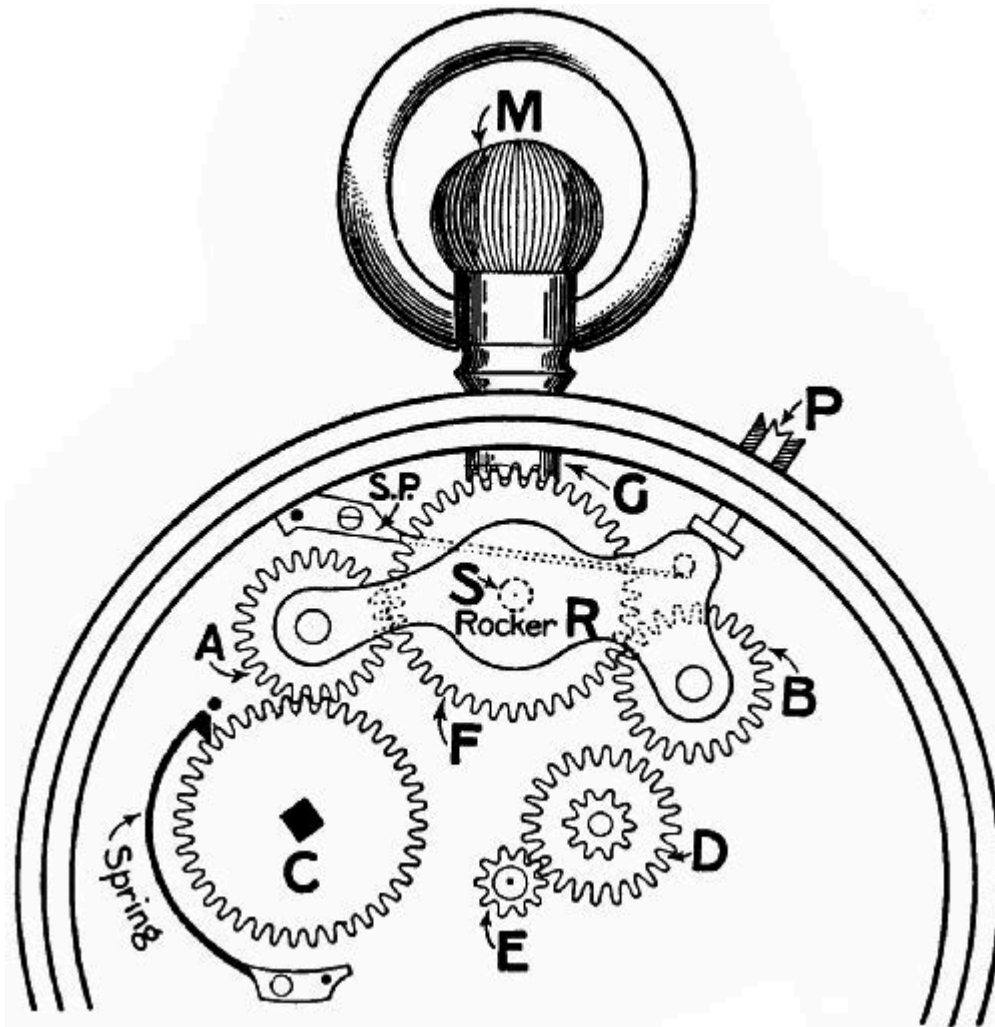

FIG. 209.—The winding mechanism of a keyless watch.
There are two forms of "going-barrel" keyless mechanism—(1) The rocking bar; (2) the shifting sleeve. The *rocking bar* device is shown in Figs. 209, 210. The milled head *M* turns a cog, *G*, which is always in gear with a cog, *F*. This cog gears with two others, *A* and *B*, mounted at each end of the rocker *R*, which moves on pivot *s*. A spring, *s p*, attached to the watch plate presses against a small stud on the rocking bar, and keeps *A* normally in gear with *C*, mounted on the arbor of the mainspring.
To wind the watch, *M* is turned so as to give *F* an anti-clockwise motion. The teeth of *F* now press *A* downwards and keep it in gear with *C* while the winding is done. A spring click (marked solid black) prevents the spring uncoiling (Fig. 209). If *F* is turned in a clockwise direction it lifts *A* and prevents it biting the teeth of *C*, and no strain is thrown on *C*.
The *shifting sleeve* mechanism has a bevel pinion in the place of G (Fig. 209) gearing with the mainspring cog. The shaft of the knob M is round where it passes through the bevel and can turn freely inside it, but is square below. On the square part is mounted a little sliding clutch with teeth on the top corresponding with the other teeth on the under side of the bevel-wheel, and teeth similar to those of G (Fig. 209) at the end. The clutch has a groove cut in the circumference, and in this lies the end of a spring lever which can be depressed by the push-piece. The mechanism much resembles on a small scale the motor car changing gear (Fig. 49). Normally, the clutch is pushed up the square part of the knob shaft by the spring so as to engage with the bevel and the winding-wheels. On depressing the clutch by means of the push-piece it gears with the minute-hand pinion, and lets go of the bevel.